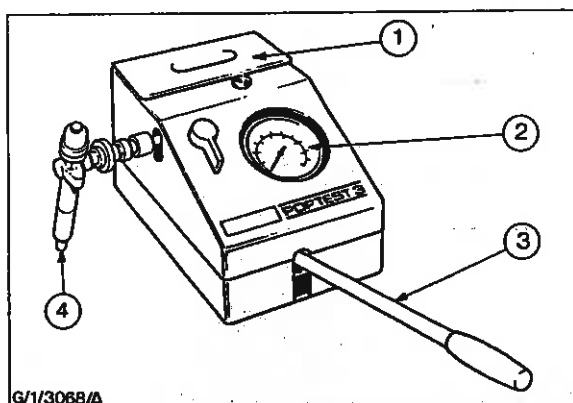

Fig. 15 - Typical Injector Tester
2. Remove the protective cap and connect the injector to the tester - see Fig. 15. Carefully wipe the nozzle completely dry.